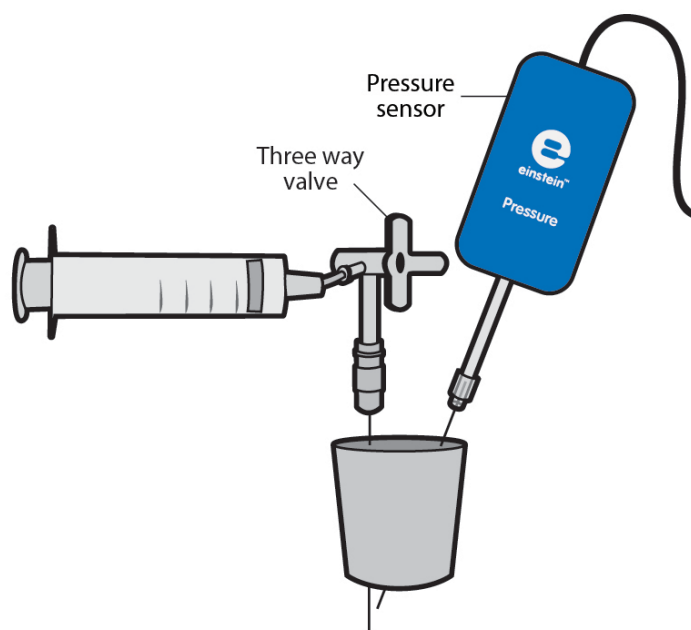

Figure 2
5. Assemble the equipment as illustrated in Figure 2 below.
6. A syringe needle (20-gauge) is inserted through the cork, until its tip projects slightly out of the cork (Figure 2).